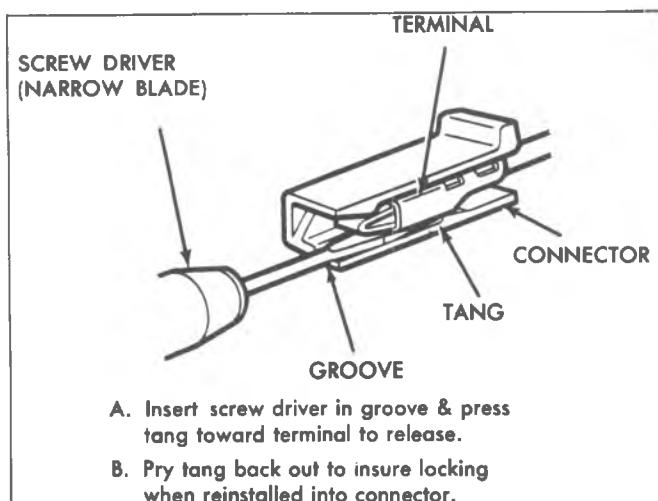

Fig. 95--Terminal Removal
5. Disconnect electrical connector from compressor. Remove the terminal (See Figure 95) and allow connector to hang on ground wire.